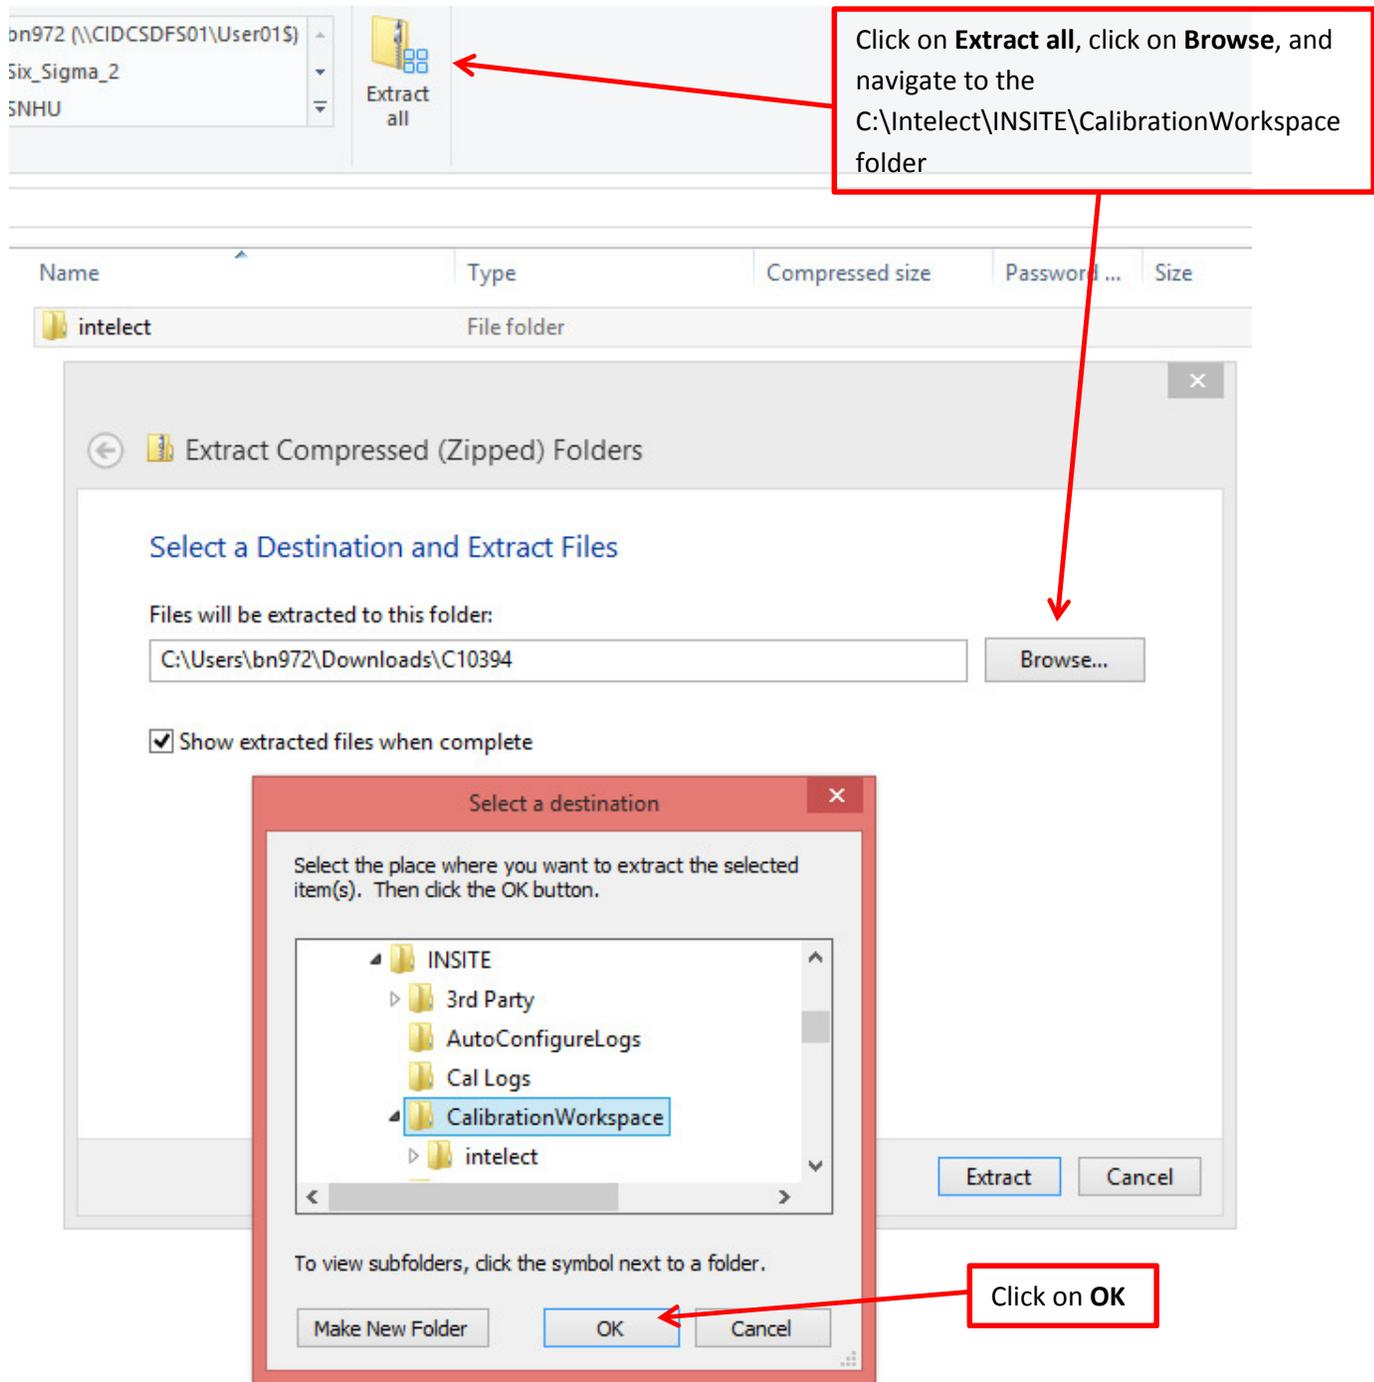

Figure 15
12. In the Extract tab, click on Extract all. In the Extract Compressed (Zipped) Folders window, browse to C:\Intelect\INSITE\CalibrationWorkspace (Figure 15). Click on OK, and then click on Extract (Figure 16).